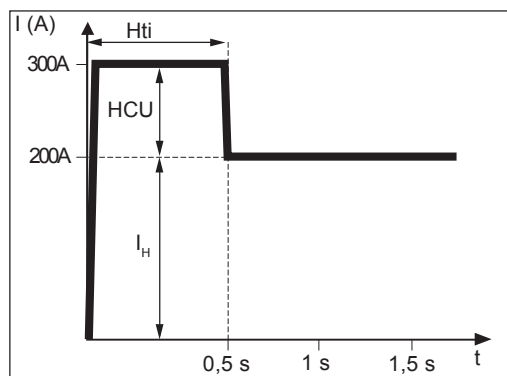

Fig. 25 Example for the "Hot-Start" function
If the "con" parameter has been set, the welding current is kept constant, regardless of the welding voltage. The result is a vertical characteristic (4) (Fig.25).
Parameter "0.1-20" is used for setting a falling characteristic (5) (Fig.25). The setting range extends from 0.1 A / V (very steep) to 20 A / V (very shallow).
If the parameter “P” has been set, the welding power is kept constant, regardless of the welding voltage and welding current. The result is a hyperbolic characteristic (6) (Fig.25).